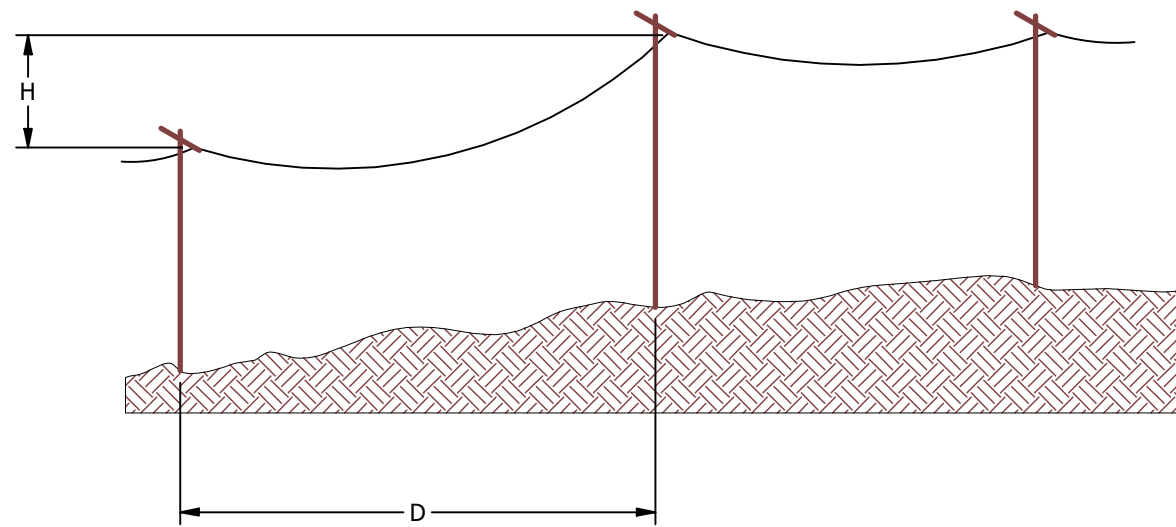

FIGURE 1
B) IF AN ADJACENT SPAN HAS A CHANGE IN ELEVATION, THEN THE FOLLOWING FORMULA SHALL BE USED TO DETERMINE 1/2 THE SPAN LENGTH, SEE FIGURE 1.